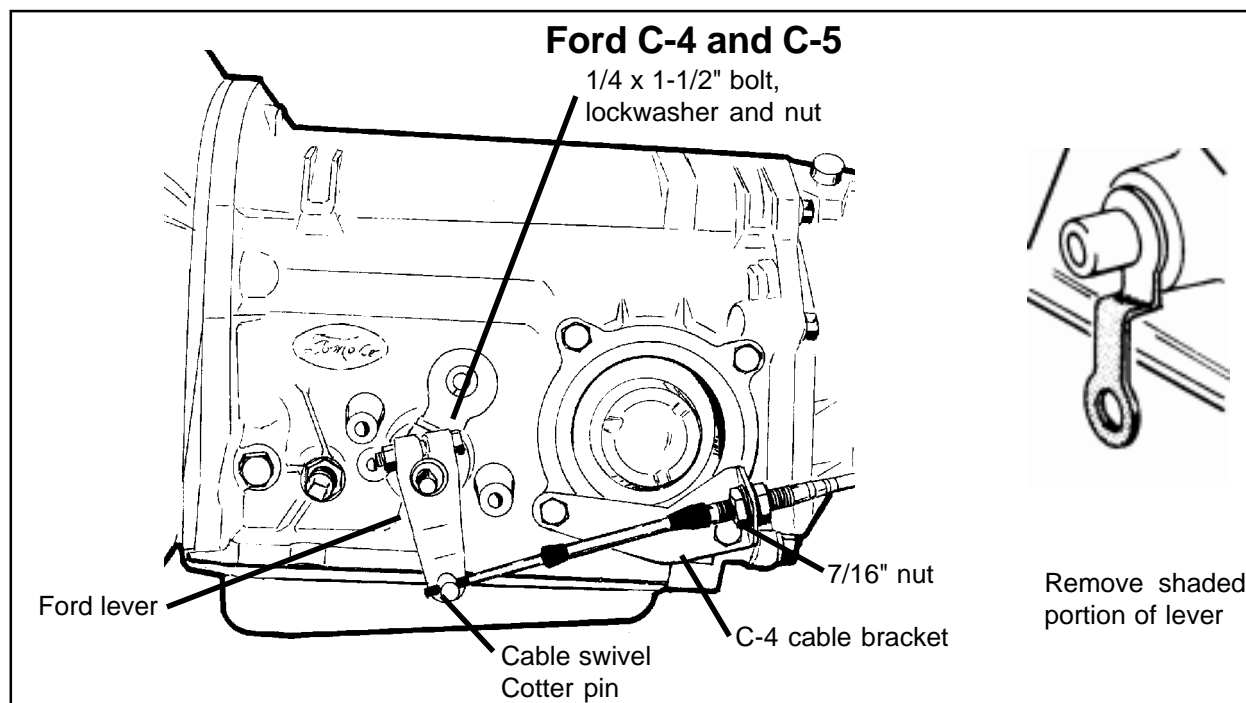

Figure 6
STEP 16. Install the **B&M** selector lever (See Figure 6 or 7). **Note:** The **B&M** lever must point downward for proper operation. If the stock shift lever on your transmission points down, you will have to remove the lower part of the stock arm by cutting it off to clear the **B&M** lever (See Figure 6). Install the **B&M** selector lever onto the shift shaft of the transmission. Align the selector lever so when it points straight down it travels equal arcs in both directions from the center, then tighten the 1/4"-20 x 1 1/2" pinch bolt and nut. The lever should travel smoothly from front to back with a positive click in each gear position. Make sure the O-ring is in position on the downshift shaft and install the downshift lever in position on the shaft. Install the lockwasher and the nut and tighten securely. The downshift lever must operate smoothly. Reconnect the downshift linkage.
C-4, C-5: Remove the two lower bolts from the rear servo cover. Install the cable bracket in position (See Figure 6). Install the two servo cover bolts as removed and tighten to 12-13 lb.ft. Do not overtighten as this can distort the